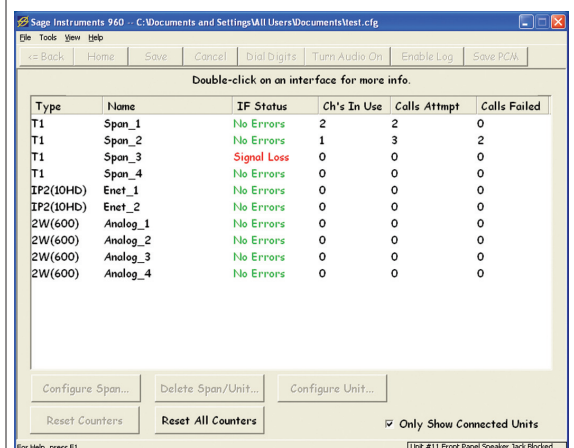

Figure 4.2.3 Home Window
5. Launch the 960 application by clicking on the Launch960 Icon on your desktop. The 960 home window shown in Figure 4.2.3 should be displayed on your screen.